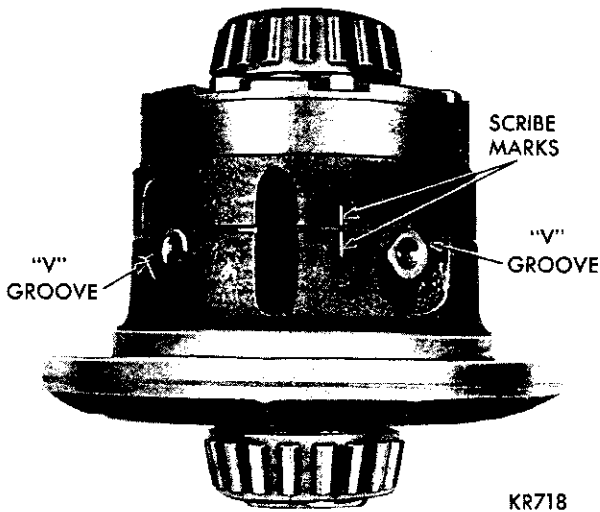
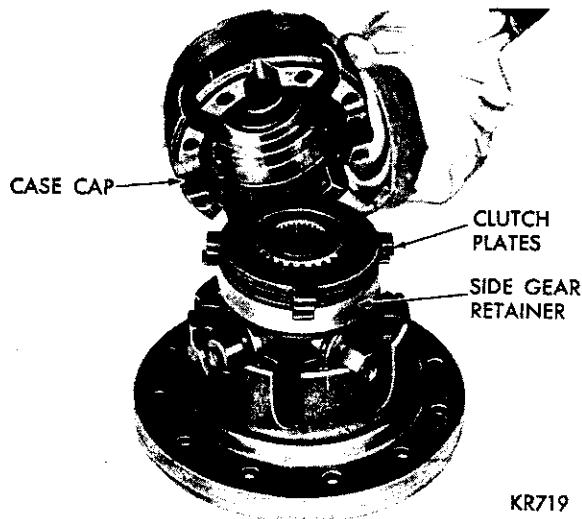
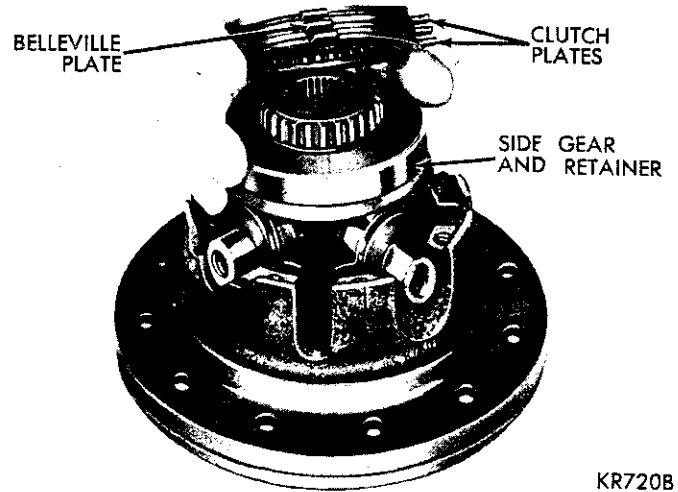

Fig. 23—Case Halves Scribed for Proper Reassembly
Fig. 24—Removing or Installing Differential Case Cap
Fig. 25—Removing Installing Clutch Plates (Cap Side)
(1) Remove axle drive gear. Measure runout of the drive gear mounting flange. Replace both case halves if runout exceeds .003 inch.
(2) Before disassembling case halves, place scribe marks on each half to aid in aligning the case when reassembling (Fig. 23). Remove case cap attaching bolts and remove case cap (Fig. 24). Remove clutch plates (Fig. 25).